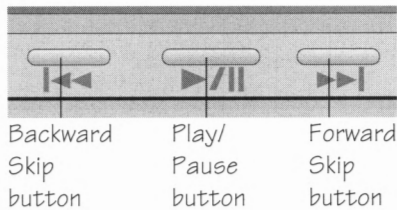

Fig. 17: Audio CD controls
- Press the Play/Pause button once. (See Figure 17.) The indicator light begins flashing. The first track on the CD begins playing.